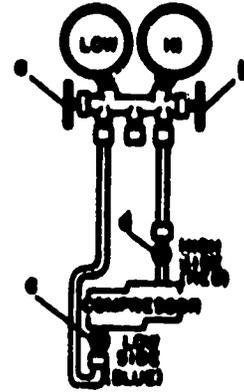

Fig 3-11.
**ALTERNATE METHOD - IF SYSTEM IS OPERATING (refer to fig 3-11).**